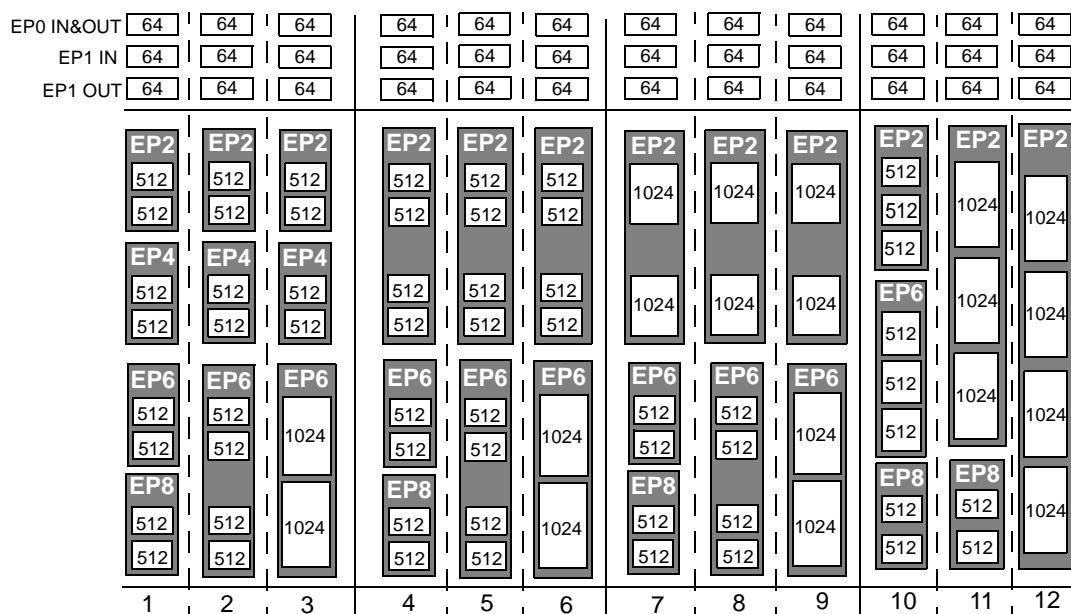

Figure 3-5. Endpoint Configuration
- EP2,4,6,8 Eight 512-byte buffers, bulk, interrupt, or isochronous. EP4 and EP8 can be double buffered, while EP2 and 6 can be either double, triple, or quad buffered. For high-speed endpoint configuration options, see *Figure 3-5*.